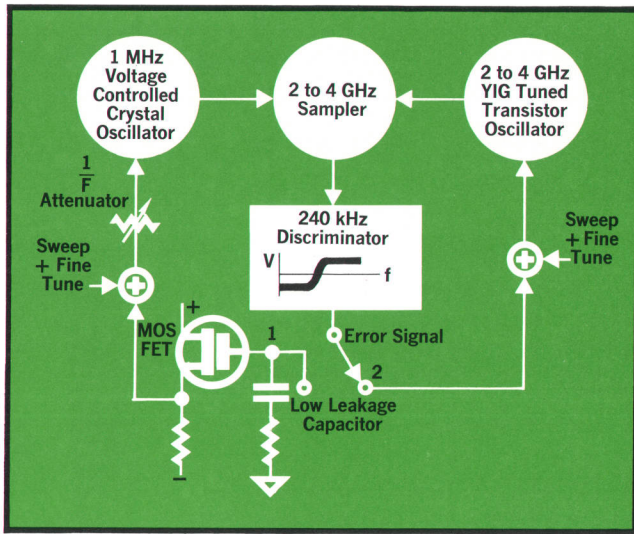

Fig. 4. Block diagram of tuning stabilizer system.
At narrow scan widths and bandwidths, the noise and drift of the first local oscillator frequency is excessive. For this reason, an automatic frequency control system is used (Fig. 4). It locks the first LO to a harmonic of a 1-MHz quartz oscillator. The 2-to-4 GHz signal is sampled at the 1-MHz rate in a thin film microcircuit sampler. The output of the sampler is a low-frequency signal resulting from the difference between the LO frequency and the nearest 1-MHz harmonic. This low frequency signal drives a discriminator with a center frequency of 240 kHz. The voltage out of the discriminator is fed back to the LO to force the sampler output to be 240 kHz. This system greatly reduces the local oscillator's drift and FM, as the LO frequency is
Fig. 4 illustrates the ability of the 8556A Analyzer System to sort out and identify many different frequency components. Two signals, 80 kHz and 90 kHz, were applied to an amplifier and the resulting distortion products are shown. The two test signals appear at the Log Reference Level (top graticule line). Second order intermodulation prod-
**Fig. 4.** Distortion products produced in an amplifier. The 80 and 90 kHz test signals are at a Log Reference Level of  $-20$  dBV (100 mV). 20 kHz-per-division scan displays second and third order distortion products.